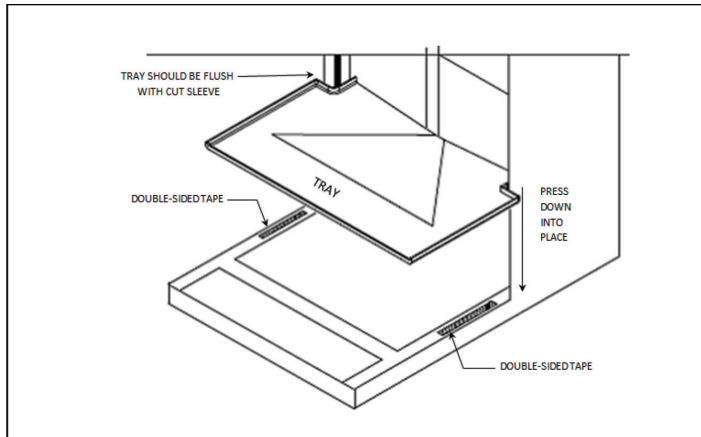

Figure 9
1. Apply double-sided tape on gasket (as shown) to assist in the installation. (See Figure 9)